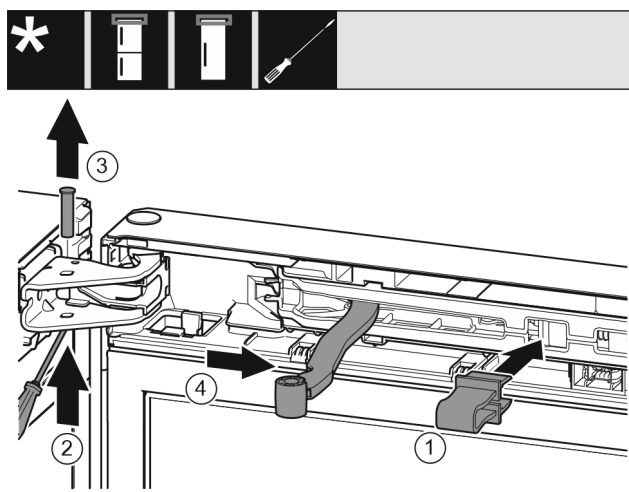

Fig. 8
- ▶ Engage the locking device in the opening. Fig. 8 (1)
- ▶ Unscrew the bolt with a screwdriver. Fig. 8 (2)
- ▶ Remove the bolt upwards. Fig. 8 (3)
- Turn the hinge in the direction of the door. *Fig. 8 (4)*